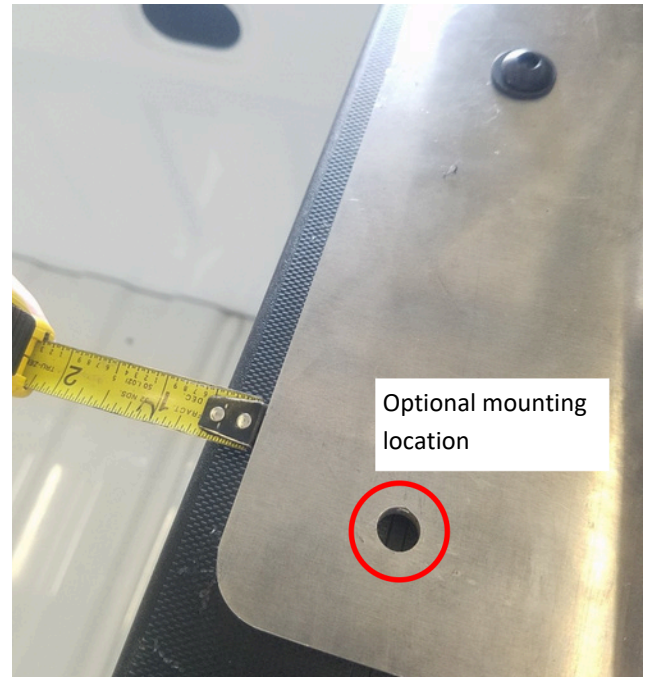

Figure 4: Aligning headache rack. Optional mounting point circled.
- Use tape measure to make the gap between mounting feet and edge of bed cap equal on both sides (**Figure 4**).
- Optional step:** For extra rigidity, use drill and 5/16" drill bit to drill a hole in bed cap. Make sure headache rack is properly aligned before drilling. Use 5/16" x 1.25" long bolt and flange locknut to fasten rack to bed cap (**Figure 4**).